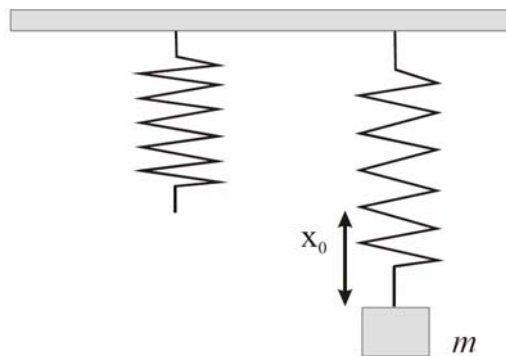

Fig. 1. A mass on a spring in the gravitational field of Earth
6. Show by using Hooke's Law that a stationary mass  $m$  hanging from a spring with constant  $k$  (Fig. 1) stretches the spring to a new equilibrium position  $x_0 = \frac{mg}{k}$ .
7. Confirm by substitution that Eq. (7) indeed solves Eq. (6).
8. Show that when  $\beta=0$  (no damping), Eq. (7) reduces to Eq. (3).